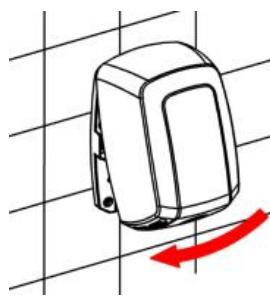

**Figure 7.**
- Connect the electrical cables to the hand dryer's terminal strip corresponding to the two phases (N and L) and to earth in the corresponding sockets of the terminal strip, as indicated by the engraved letters (Figure 7).